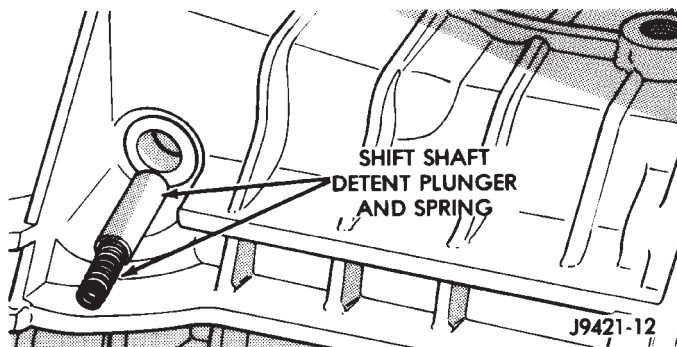

Fig. 15 Detent Plunger And Spring Removal
(11) Use Remover 8117 and suitable slide hammer to remove shift shaft detent plug.
(12) Remove shift shaft detent plunger and spring (Fig. 15). Use pencil magnet to remove spring then plunger, if necessary.